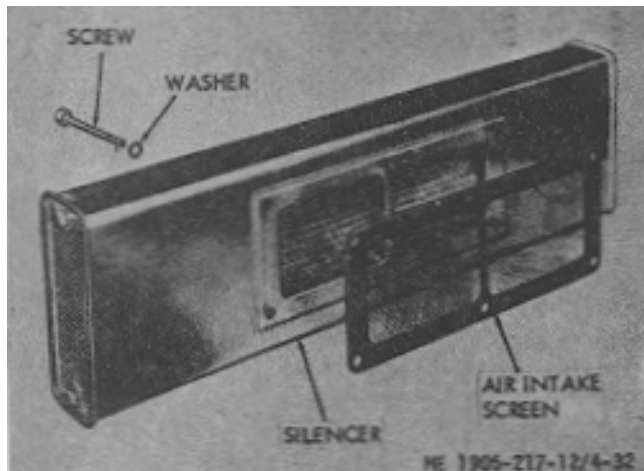

Figure 4-32. Blower air inlet silencer assembly.
(1) Remove the bolt that retains the breather pipe to the air silencer.
(2) While supporting the silencer, remove the six attaching bolts and washers. Then remove the silencer and air intake screen from the blower.
c. *Cleaning.* Clean or replace the air intake screen (fig. 4-32).